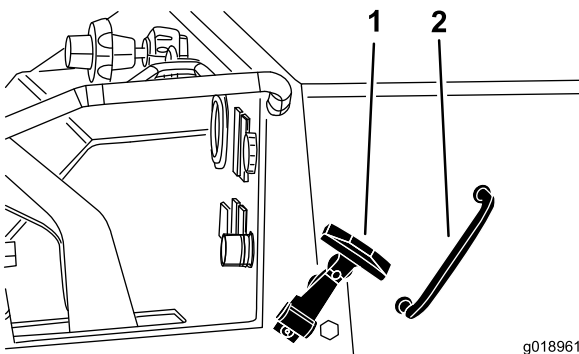

Figure 15
1. Pull the rubber hood latch (on each side of the hood) from the hood bracket (Figure 15).